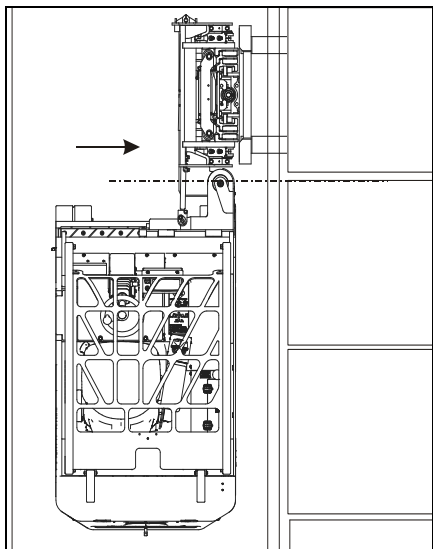

Figure 4-12: Positioning the Forks
9. When the forks are aligned to the pallet opening, shift the mast to the right, inserting the forks all the way into the pallet. See Figure 4-12.